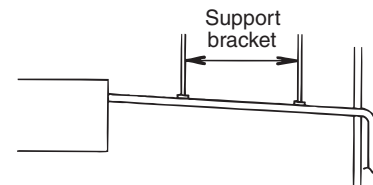

Fig. 3-67
- Do not apply force to the piping on the unit side when connecting the drain pipe. The pipe should not be allowed to hang unsupported from its connection to the unit. Fasten the pipe to a wall, frame, or other support as close to the unit as possible. (Fig. 3-67)